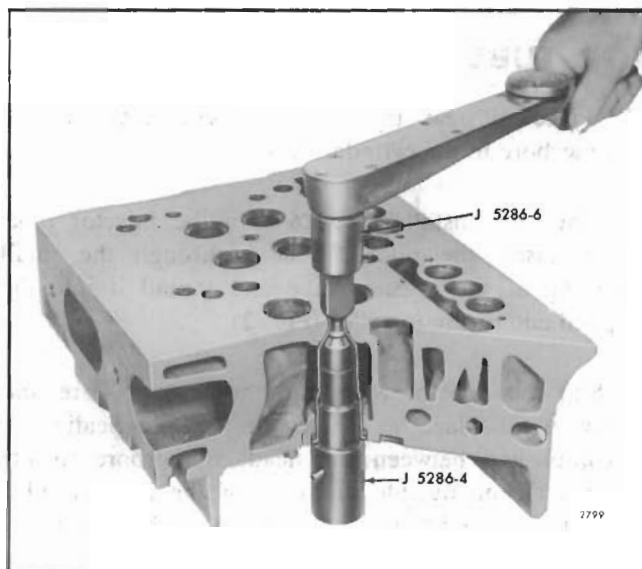

Fig. 3 - Upsetting Injector Tube
- a. Turn the cylinder head bottom side up, remove the pilot J 5286-5 and thread the upsetting die J 5286-6 into the tapped end of the installer J 5286-4 (Fig. 3).